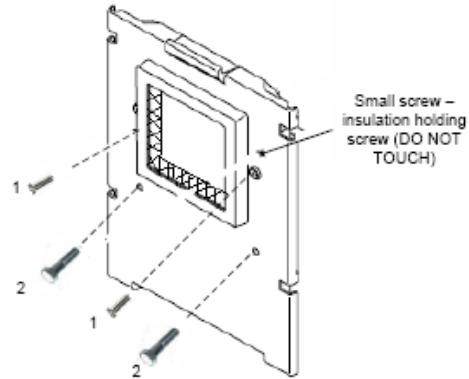

Fig. 4a Burner Door
- Remove the 2 hex bolts (Fig. 4a, item 2) below the burner door opening.